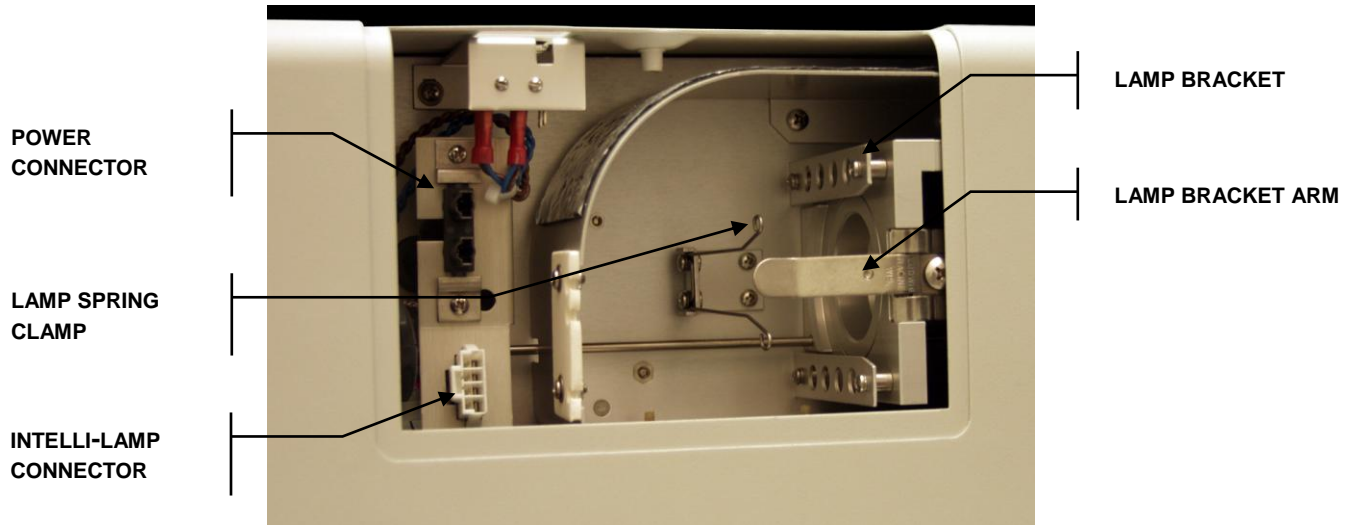

Figure 4 Lamp Housing
5.1.4 Open the lamp bracket arm by pulling towards you, refer to Figure 4.